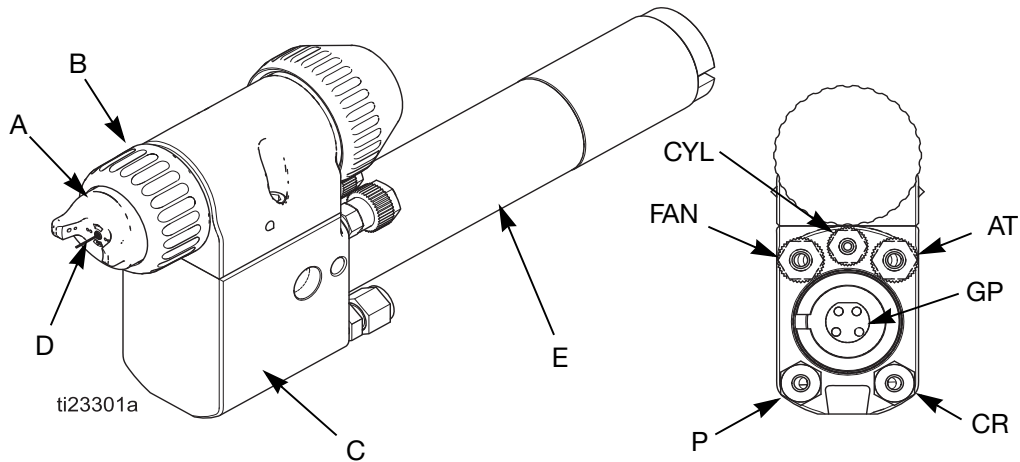

FIG. 1 Gun Overview with Rear Mount
The automatic electrostatic air spray gun operates very similar to a traditional air spray gun. The atomization and fan air are emitted from the air cap (A). See FIG. 1, page 9.
The controller sends power to the power supply (E), which increases the voltage to the level set at the controller. The electrostatics enter the manifold (C) and is directed to the gun electrode (D). The fluid is charged by the spray gun electrode. The charged fluid is attracted to the nearest grounded object, wrapping around and evenly coating all surfaces. See FIG. 1, page 9.